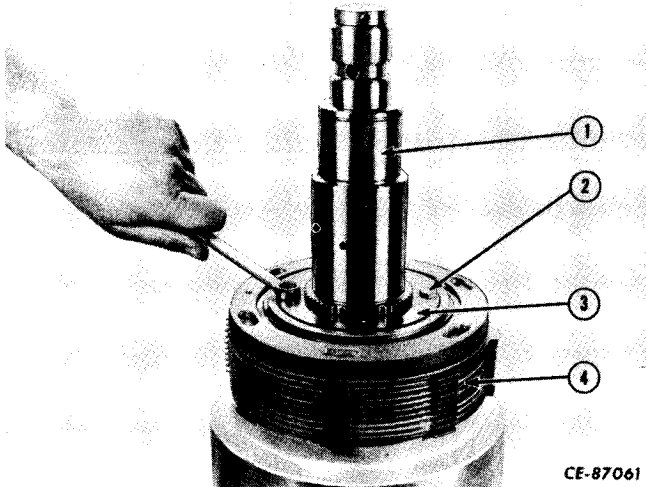

Figure 4-93
Remove the cap screws (2, Fig. 4-93) that secure the clutch hub retainers (3). Remove retainers. Lift the hub and plate assembly (4) from the shaft (1).